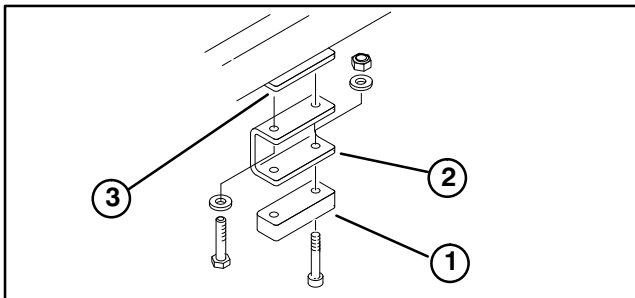

Figure 9
3. Mount a rubber stop (Fig. 9) to frame bracket on each side of traction unit as follows:
A. On traction units equipped with a fixed cutting unit lift arm kit, mount a U-bracket to each frame bracket with (2) washers and screws. Then, mount a rubber stop to each U-bracket with (2) screws.
B. On traction units equipped with a floating cutting unit lift arm kit, mount a rubber stop directly to each frame bracket with (2) screws.